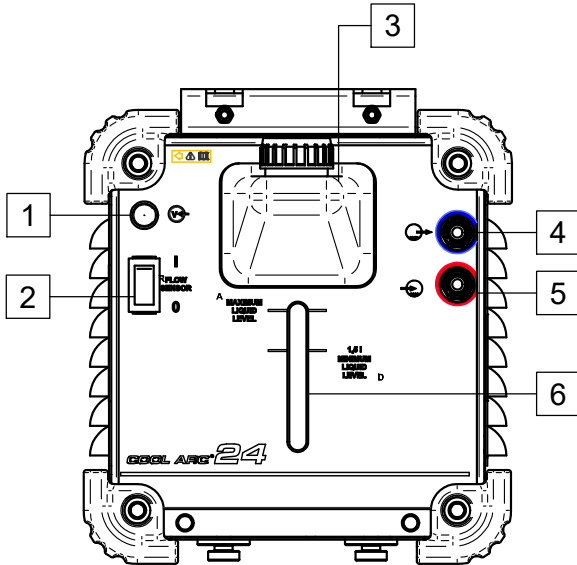

Figure 3
- Connect the water-cooler hoses to the cooler's inlet [5] and outlet [4] socket (Figure 3).